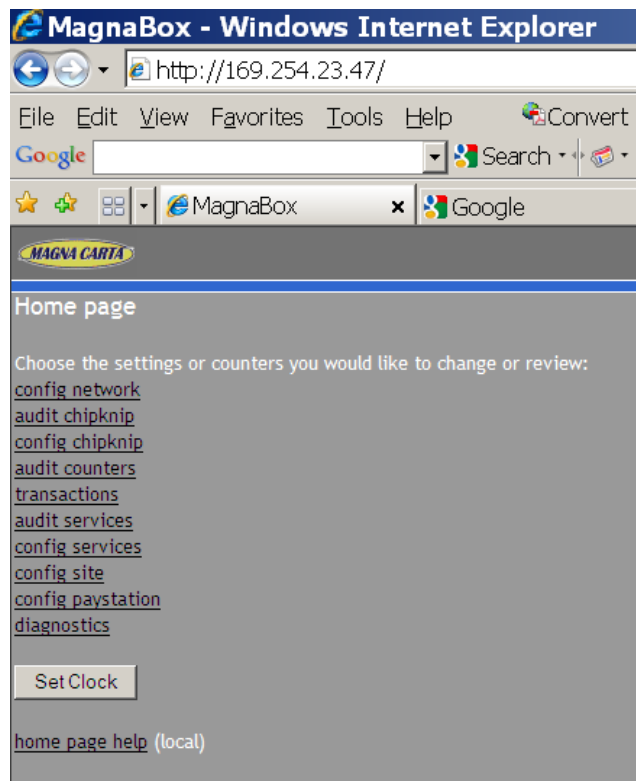

Figure 4-5 Home page of a Magnabox
6. Press **<Enter>**. You will see the home page of your Magnabox (Figure 4-5).